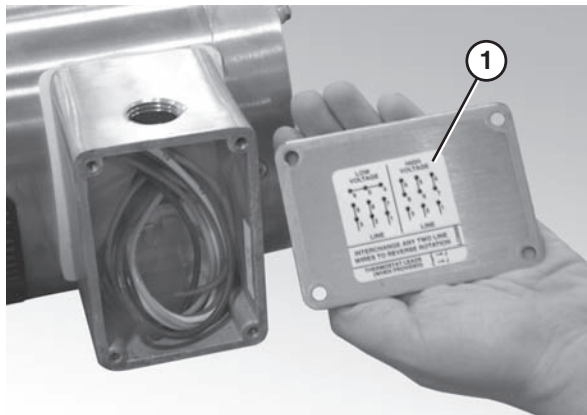

Figure 36
2. Refer to the wiring diagram (Figure 36, item 1) on the inside of the junction box cover.